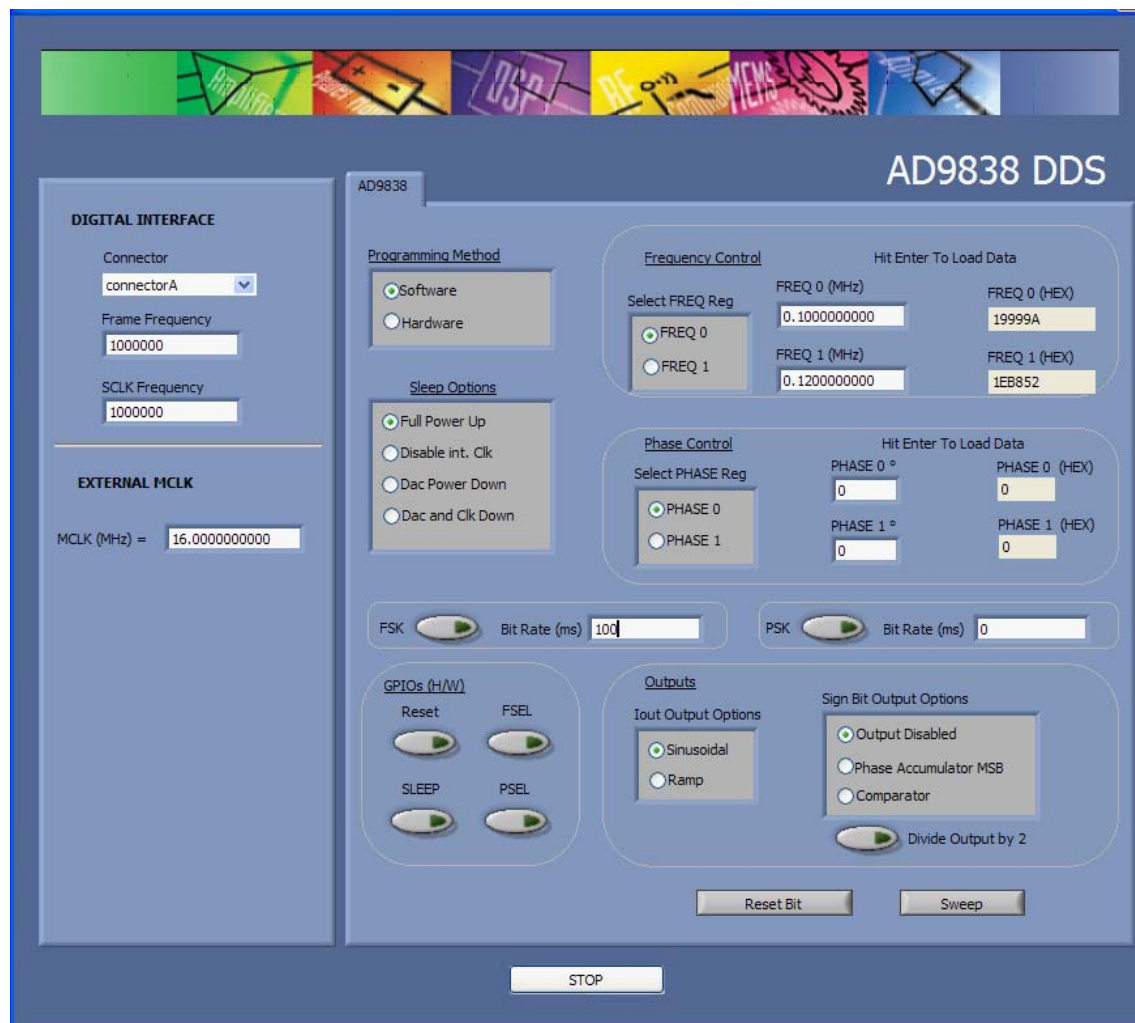

Figure 4. AD9838 DDS Evaluation Software
3. Ensure that all links are in their correct locations (see Table 1). The main window of the AD9838DBZ evaluation software then opens, as shown in Figure 4.